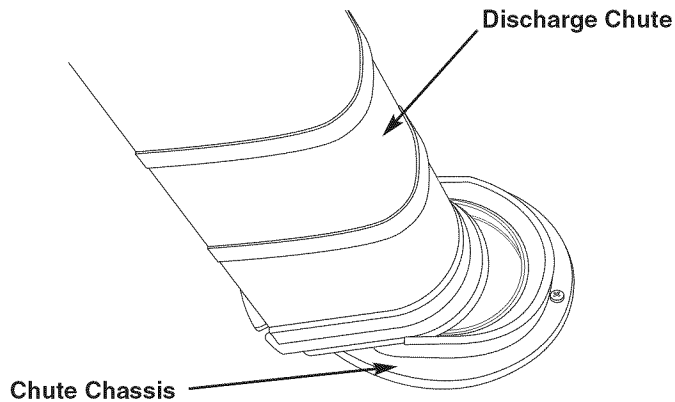

Figure 2
2. Slide the discharge chute into the chute chassis. (see Fig. 2)